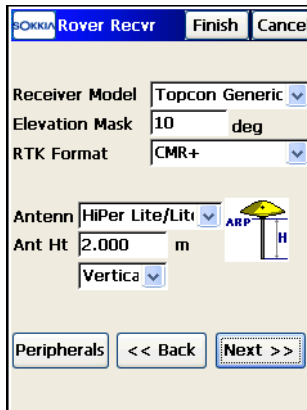

Figure 4-18. Configure RTK Rover Receiver
1. Press the **Peripherals** button on the **Rover Receiver** screen (see Figure 4-18 on page 4-13).
1. Press the **Peripherals** button on the *Rover Receiver* screen (see Figure 4-18 on page 4-13).